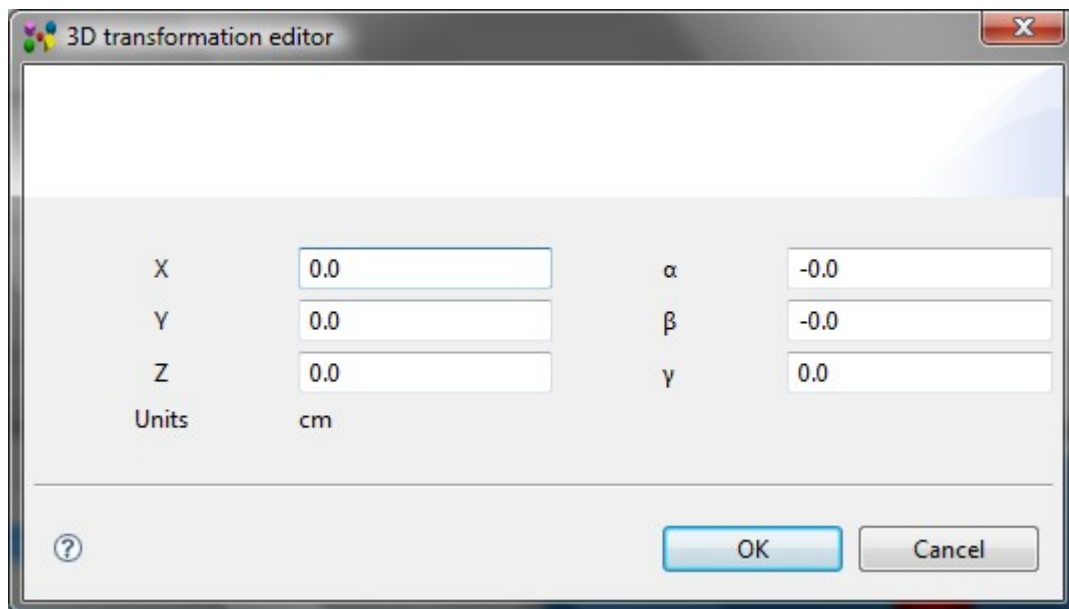

Figure 7. 3D transformation editor
- Double click on the cell in the **Transformations** column. The **3D Transformation editor** appears on the screen to change transformation of a 3D object if needed (see Figure 7):